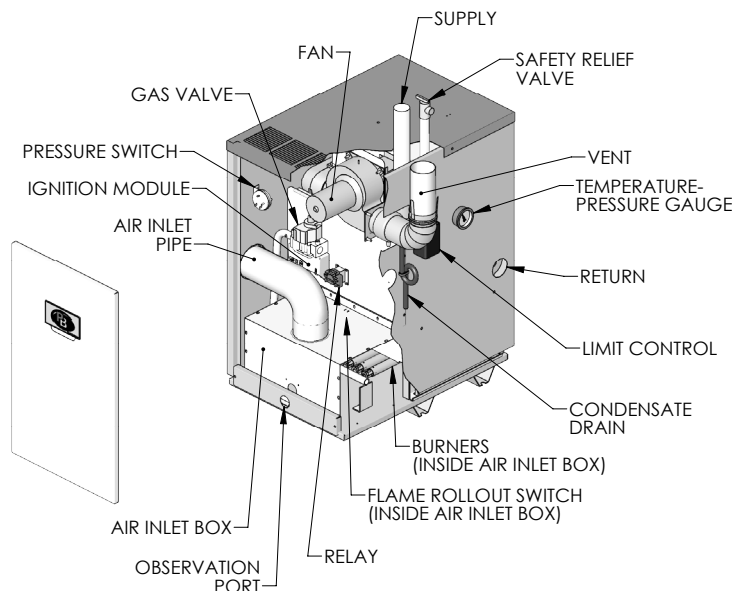
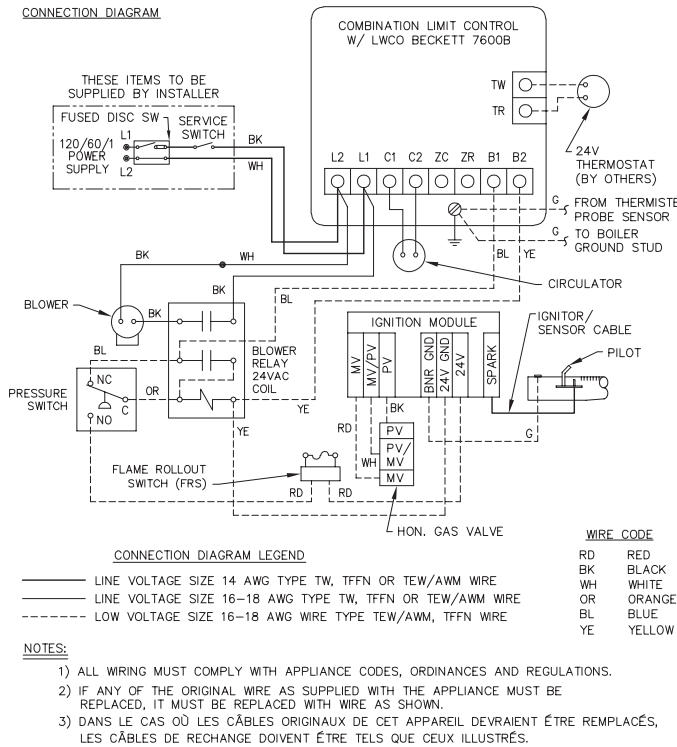

Figure 6.1: Wiring, Controls and Safety Devices
Figure 6.2: Wiring Diagram, Spark Ignited Pilot, Becket 7600 Limit Control
1. See Figure 6.1 for location of wiring and controls. Use Figure 6.2 to connect the boiler to a power supply and to connect components to the boiler.
1. For proper location of controls and accessories refer to Figure 6.1.